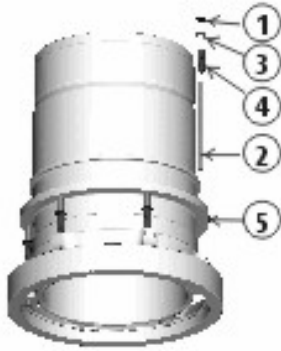

Fig.67: Remove others
2. Refer to Figure 67, Page 35. If necessary, remove the circlips (1) of the 6 push pins (2) and subsequently the 6 push pins, the washers (3) and springs (4).